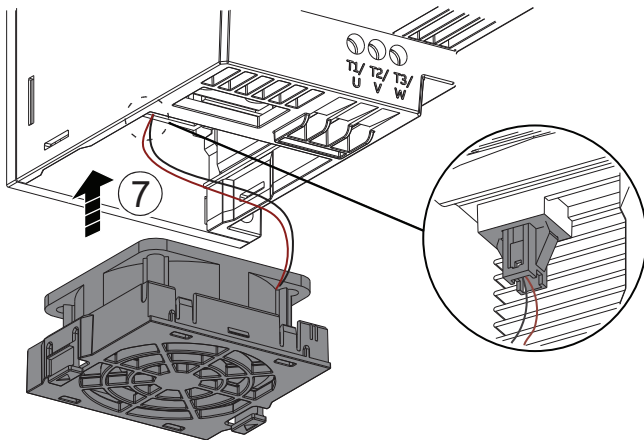

Fig. 57 — Connect Fan To Power
7. Connect the fan power cable. See Fig. 57.